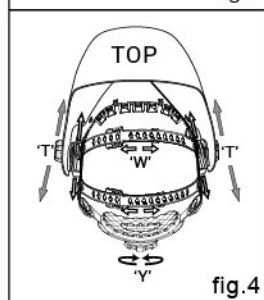

fig.4
The overall circumference of the headband can be made larger or smaller by rotating the knob on the back of the headband (See adjustment “Y” in fig.4). This can be done while wearing the helmet and allows just the right tension to be set to keep the helmet firmly on the head without it being too tight.
• If the headband is riding too high or too low on your head, adjust the strap which passes over the top of your head. To do this release the end of the band by pushing the locking pin out of the hole in the band. Slide the two portions of the band to a greater or lesser width as required and push the locking pin through the nearest hole (See adjustment “W” in fig.4).
Step 1: Undo the block nut (See "T" in fig.4) to adjust the distance between the helmet and your face in the down position.